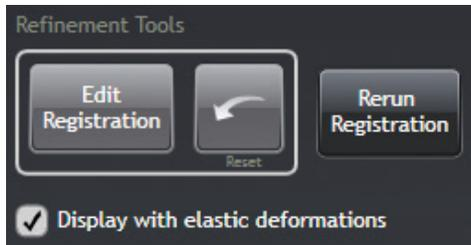

Figure 3-14: Refinement Tools
4. If you are not satisfied with the software’s automatic image registration, adjustments can be made using the Refinement Tools (see Figure 3-14) as described below.